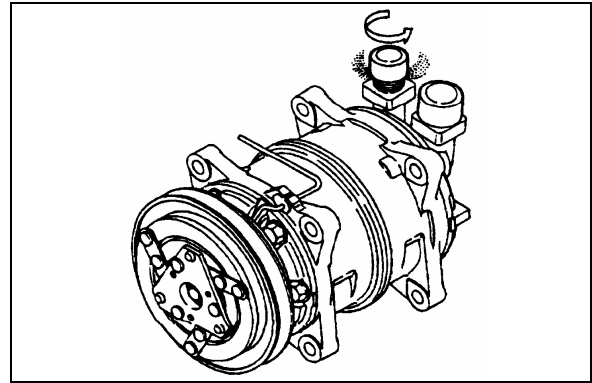

FIGURE 40: LOOSENING THE DISCHARGE SIDE CONNECTOR'S CAP 22252
- * Loosen the discharge side connector's cap and gently release N² from compressor (Refer to figure 40).